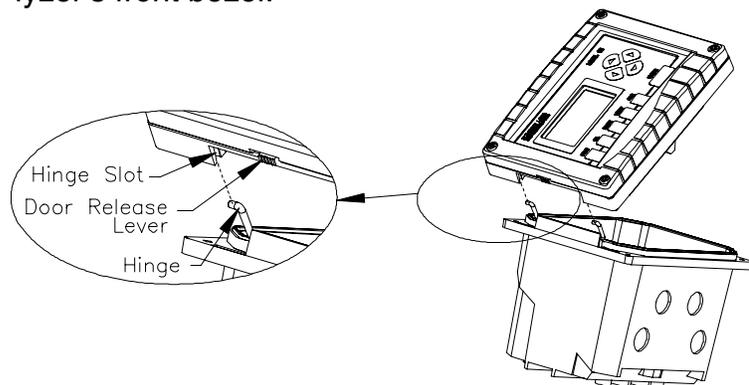

FIGURE 4-1 Analyzer Door Attachment Details
3. While holding the door, slide the door release lever (Figure 4-1) upward to release the door from the hinge.
To Attach Analyzer Door (Figure 4-1):